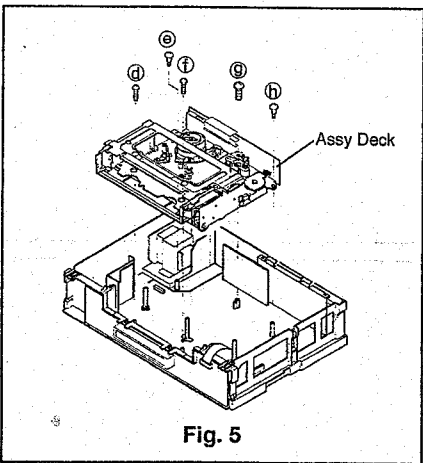

Fig. 5
- ④ Remove the five screws (Ⓘ~Ⓢ) holding the Assy Deck, shown in Fig. 5, and disconnect the connectors **ML**, **MM** and **ME**.
- ⑤ Slowly raise the Assy Deck upward to remove it.